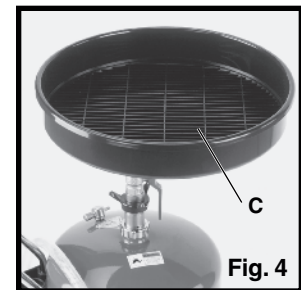
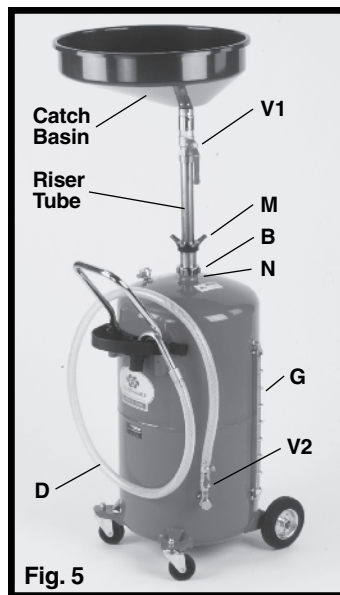

Fig. 4
Fig. 5
Connect the assembled riser tube/catch basin assembly to the reservoir tank (fig. 5) by tightening ring nut 'B' with a spanner wrench or large slip joint pliers. Place the filter grate
'C' inside the drain pan as shown (fig. 4). Attach the hose 'D' with the hose clamp provided using a flat head screw driver (fig. 5).
Daily use: To raise and lower the catch basin, loosen compression wing nut 'M' (fig. 5) and hand tighten after reaching the desired height.
Make sure that the four air vents 'N' (fig. 5) are unobstructed by not raising the riser tube assembly to its full up and locked position. These vents allow air to escape while oil is
With drain valve 'V1' (fig. 5) closed, drained oil remains in the pan (pan capacity is 25 quarts). To drain oil from the pan to the tank, open drain valve 'V1' (fig. 5).
**Note:** Never fill the reservoir over the "STOP" level indicated by the sight gauge 'G' (fig. 5) on the side of the reservoir. Ensure that the discharge valve 'V2' (fig. 5) is closed to prevent inadvertent drainage of oil.
- 1.) Raise the catch basin/riser tube assembly (fig. 5) to its full up and locked position. This seals off the four small air vents 'N' at the bottom of the riser tube (fig. 5) and allows the reservoir to be pressurized.
- 2.) Close valve 'V1' (fig. 5).
- 4.) Pressurize the reservoir to approximately 7-10 PSI via Schrader valve 'V3' (fig.6) and open discharge valve 'V2' (fig. 5). You may leave a regulated air supply (7-10 PSI) connected to the Schrader valve to allow
- 6.) After the fluid has been transferred from the reservoir, close valve 'V2' (fig. 5) and slightly lower (1-2 inches) the catch basin/riser tube (fig. 5) to once again allow air to escape while draining oil into the reservoir.